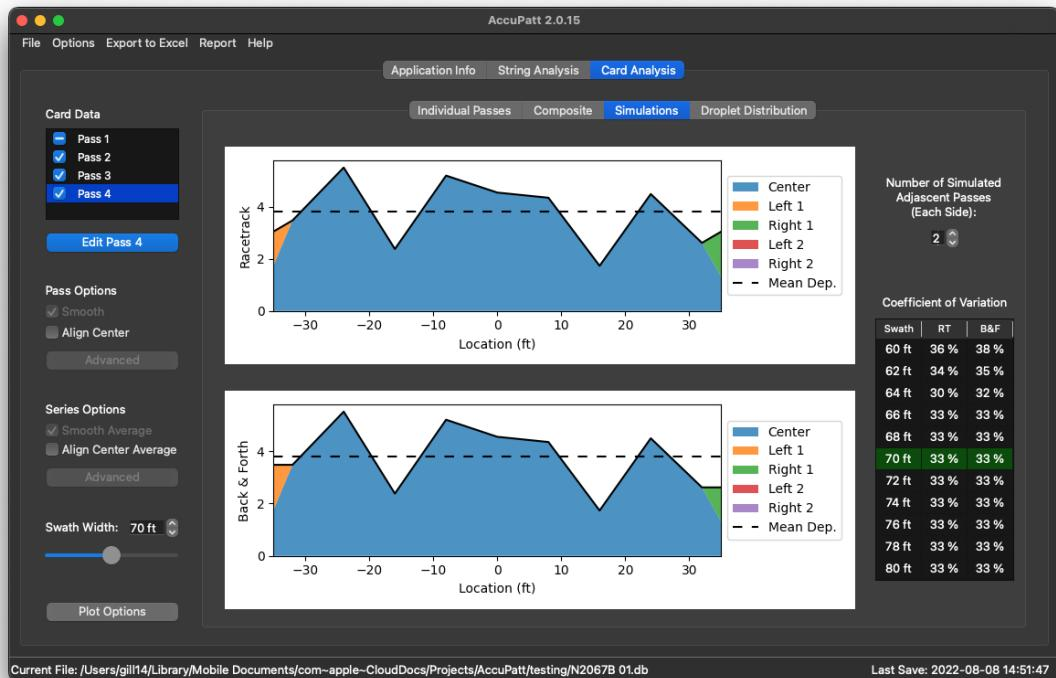

Figure 12: Spray-Card Analysis - Simulations
The **Simulations** sub-tab contains two plots (Figure 12). Both plots simulate additively overlapping the measured pattern at intervals of the adjusted swath width. The bold black line represents the resultant summed pattern, and is interpreted here as projected in-field uniformity. The dashed horizontal line represents the mean value, about which standard deviations are computed for coefficient of variation (CV) calculations. In other words, the further a data point on the bold black line is (vertically) from the dashed line, the more it contributes to the CV.